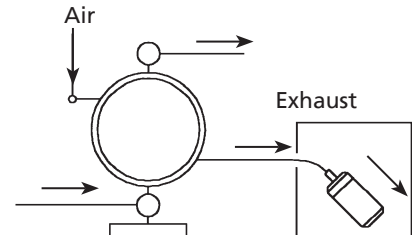

Figure 11
- Exhaust should be directed outside, not into the fluid in which the pump is submerged. For information on how to arrange the exhaust, See NOTE, page 11 – Arranging outside exhaust and Figure 11 below.